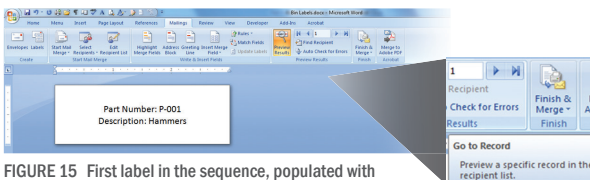

FIGURE 15 First label in the sequence, populated with content imported from an Excel spreadsheet.
- M. With the **Go to Record** set at **1** (Fig. 15), the **first label** in a sequence should now appear on the Word template.